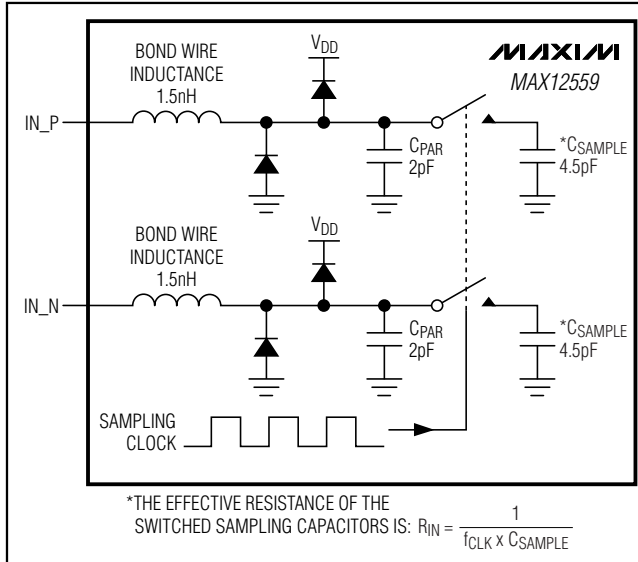
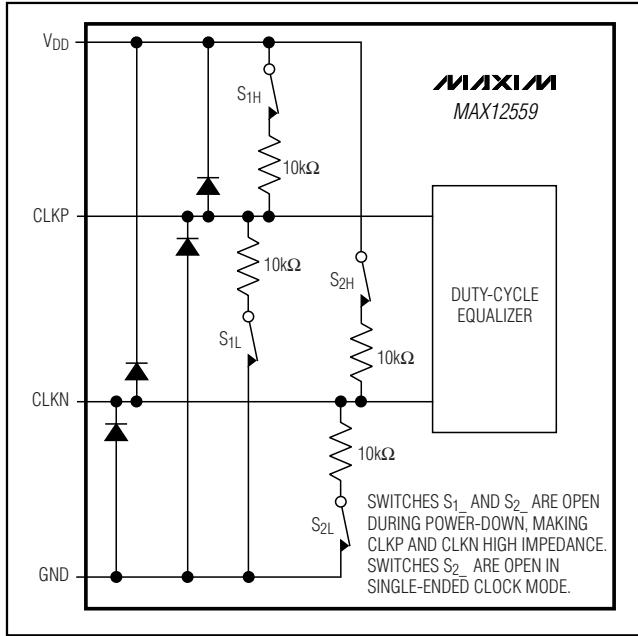
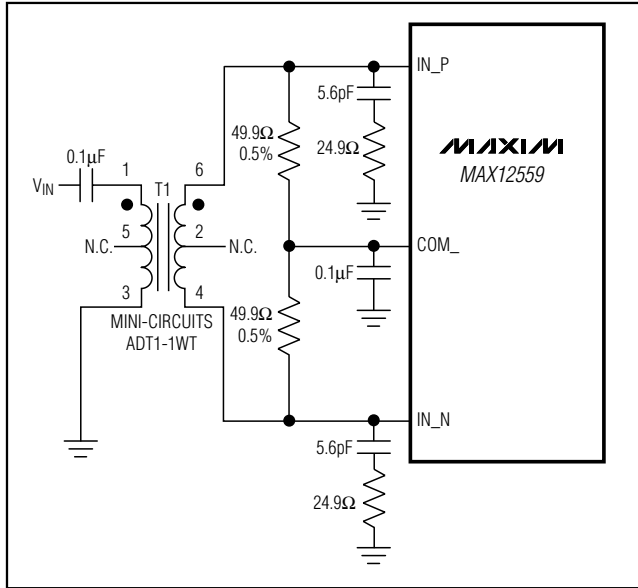
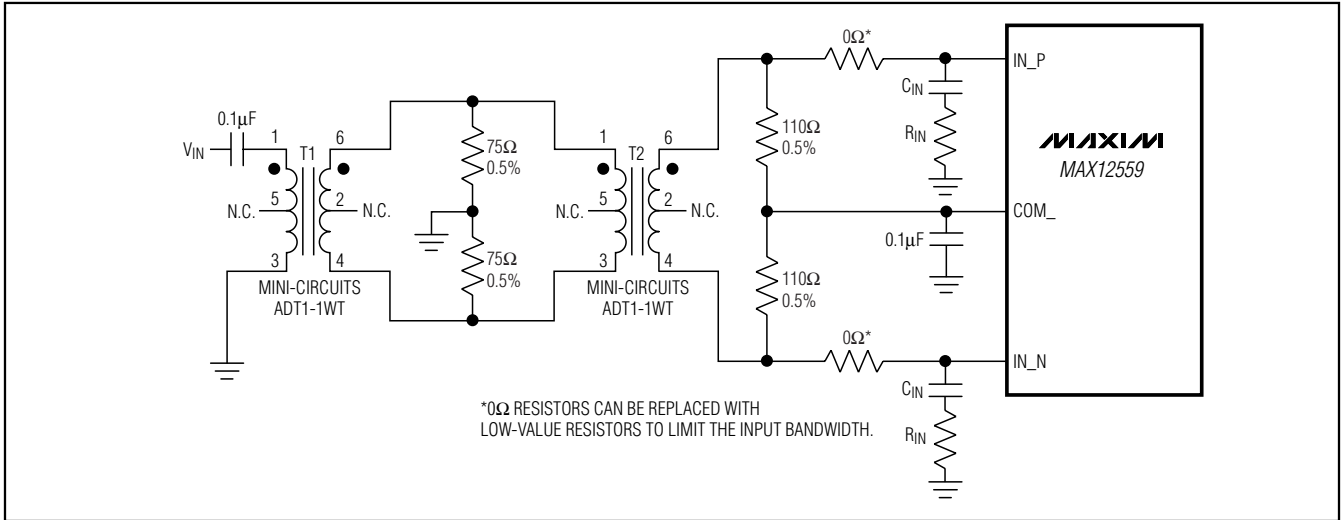

Figure 3. Internal T/H Circuit
Figure 4. Simplified Clock Input Circuit
Figure 9. Transformer-Coupled Input Drive for Input Frequencies Up to Nyquist
Figure 10. Transformer-Coupled Input Drive for Input Frequencies Beyond Nyquist
Figure 3 displays a simplified functional diagram of the input T/H circuit. This input T/H circuit allows for high analog input frequencies (high IF) of 175MHz and beyond and supports a $V_{DD} / 2$ common-mode input voltage.
The MAX12559 sampling clock controls the switched-capacitor input T/H architecture (Figure 3) allowing the analog input signals to be stored as charge on the sampling capacitors. These switches are closed (track mode) when the sampling clock is high and open (hold mode) when the sampling clock is low (Figure 4). The analog input signal source must be able to provide the dynamic currents necessary to charge and discharge the sampling capacitors. To avoid signal degradation, these capacitors must be charged to one-half LSB accuracy within one-half of a clock cycle. The analog input of the MAX12559 supports differential or single-ended input drive. For optimum performance with differential inputs, balance the input impedance of IN_P and IN_N and set the common-mode voltage to mid-supply ($V_{DD} / 2$). The MAX12559 provides the optimum common-mode voltage of $V_{DD} / 2$ through the COM output when operating in internal reference mode and buffered external reference mode. This COM output voltage can be used to bias the input network as shown in Figures 9, 10, and 11.
The MAX12559 accepts both differential and single-ended clock inputs with a wide 25% to 75% input clock duty cycle. For single-ended clock input operation, connect DIFFCLK/SECLK and CLKN to GND. Apply an external single-ended clock signal to CLKP. To reduce clock jitter, the external single-ended clock must have sharp falling edges. For differential clock input operation, connect DIFFCLK/SECLK to O_{VDD} . Apply an external differential clock signal to CLKP and CLKN. Consider the clock input as an analog input and route it away from any other analog inputs and digital signal lines. CLKP and CLKN enter high impedance when the MAX12559 is powered down (Figure 4).
- 1) INAP/B, INAN/B analog inputs are disconnected from the internal input amplifier (Figure 3).
- 6) CLKP, CLKN clock inputs enter a high-impedance state (Figure 4).
An RF transformer (Figure 9) provides an excellent solution to convert a single-ended input source signal to a fully differential signal, required by the MAX12559 for optimum performance. Connecting the center tap of the transformer to COM_ provides a V_{DD} / 2 DC level shift to the input. Although a 1:1 transformer is shown, a step-up transformer can be selected to reduce the drive requirements. A reduced signal swing from the input driver, such as an op amp, can also improve the overall distortion. The configuration of Figure 9 is good for frequencies up to Nyquist ($f_{CLK} / 2$).
The circuit of Figure 10 converts a single-ended input signal to fully differential just as Figure 9. However, Figure 10 utilizes an additional transformer to improve the common-mode rejection allowing high-frequency signals beyond the Nyquist frequency. A set of 75 Ω and 110 Ω termination resistors provide an equivalent 50 Ω termination to the signal source. The second set of termination resistors connects to COM_ providing the correct input common-mode voltage. Two 0 Ω resistors in series with the analog inputs allow high-IF input frequencies. These 0 Ω resistors can be replaced with low-value resistors to limit the input bandwidth.
The input network in Figure 10 can be modified to enhance the frequency-range-specific AC performance of the MAX12559 by simply replacing the input capacitance with a series network of resistor (R_{IN}) and capacitor (C_{IN}). Table 4 displays a selection of resistors and capacitors that are recommended to help improve the already excellent performance of this ADC for specific applications requiring only a certain range of input frequencies.